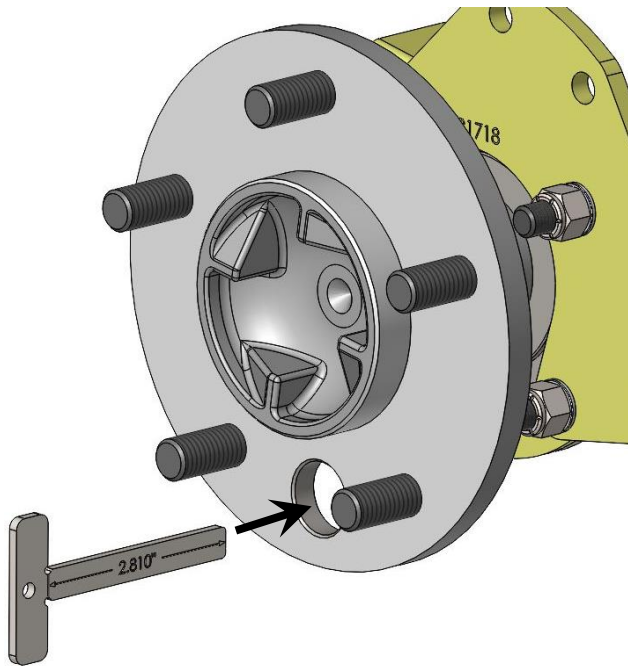
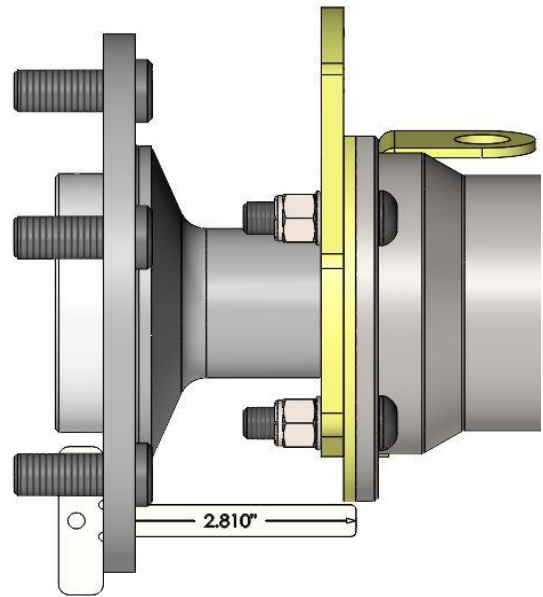

Figure 4a – Measuring Axle Standoff (2.810" Standoff Shown)
Figure 4b – Measuring Axle Standoff (2.810" Standoff Shown)
- The standoff of the rear axle must be determined next. This is achieved by taking the supplied depth gauge and holding it flat on the face of the axle flange through the axle access hole. If the end of the depth gauge is touching or very close to the axle tube flange, your standoff is 2.810". If the end of the depth gauge is approximately .100" away from the axle tube flange, your axle standoff is 2.910". Refer to Figure 4a and Figure 4b on the next page or reference on how to measure your standoff.